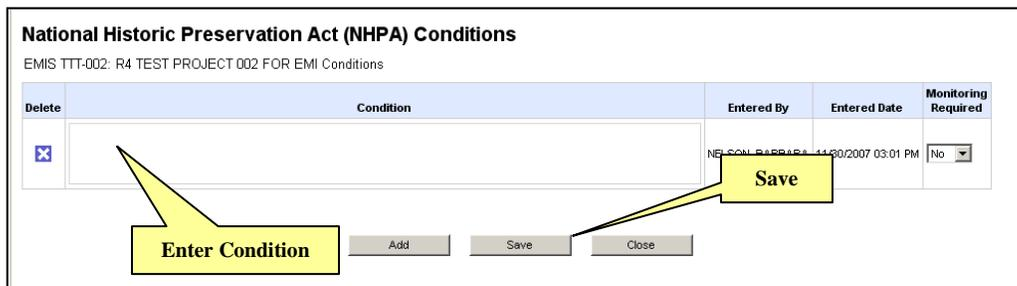

Figure 3.11: Adding conditions (2)
- NHPA Conditions screen will appear (Figure 3.11) – Enter a condition